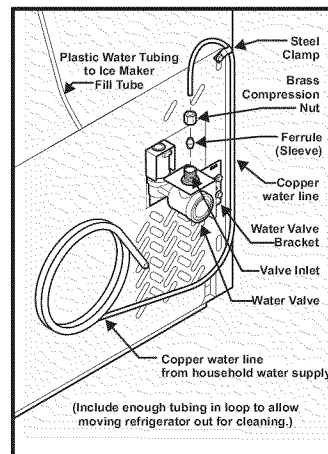

Figure 1
- 4 **If you use copper tubing** - Slide brass compression nut, then ferrule (sleeve) onto water supply line. Push water supply line into water valve inlet as far as it will go (¼ inch/6.4 mm). Slide ferrule (sleeve) into valve inlet and finger tighten compression nut onto valve. Tighten another half turn with a wrench; **DO NOT** over tighten. See Figure 1.